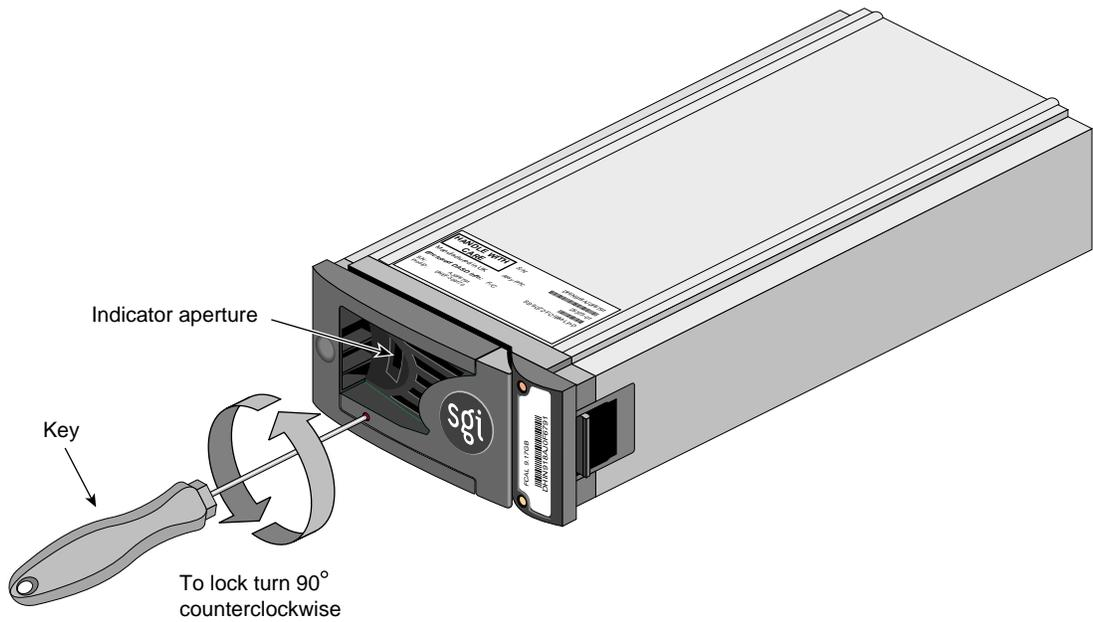

Figure 8-19 Locking the Disk Drive Module (Setting the Antitamper Lock)
- Carefully insert the lock key provided into the cutout in the handle trim. See Figure 8-19.